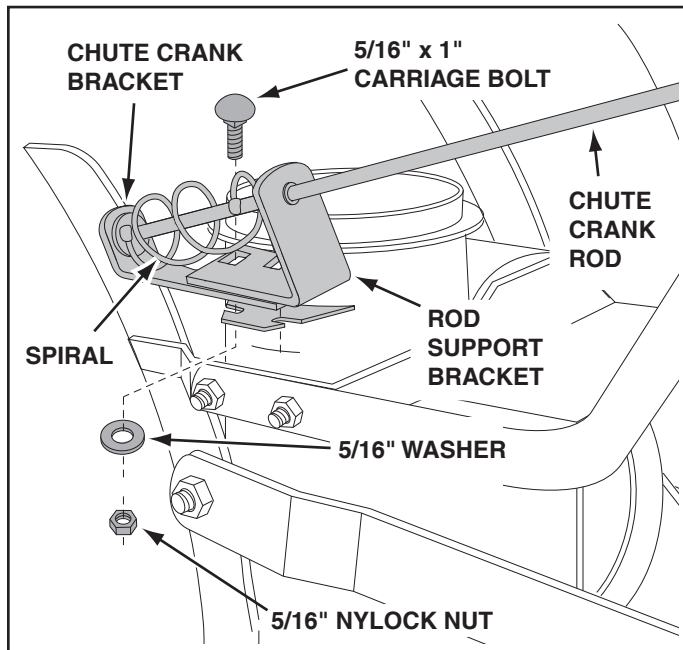

FIGURE 51
#### STEP 52: (SEE FIGURE 51)
- Position the crank rod spiral (see figure 51) so that it does not rub against the bottoms of the notches in the chute flange. **Tighten** the nuts.